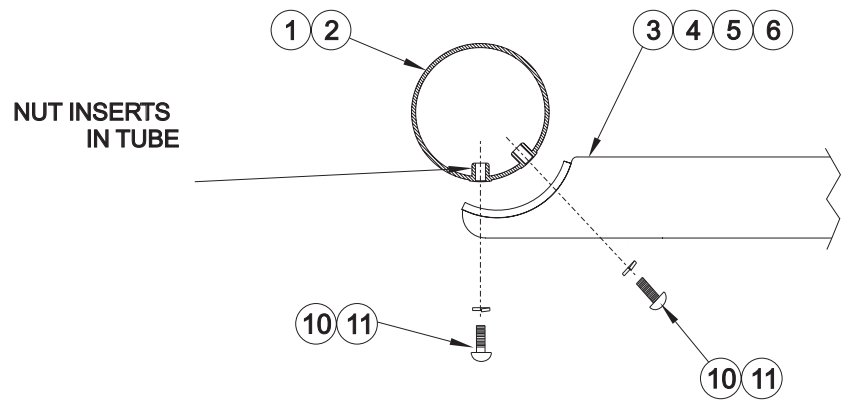

FIGURE 2 STEP BAR ATTACHMENT
- STEP 4. Attach passenger side step bar to cradles with the *Westin* logo facing outward. **SEE FIGURE 2.**